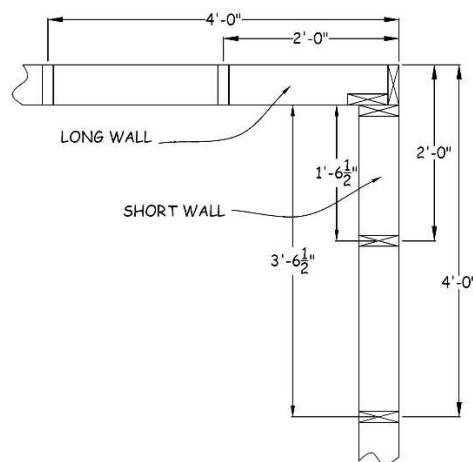

Figure 3-4. Corner Layout.
- For plates on the long walls, the studs are placed on 2' centers from the outside of the zero corner. Therefore, plates on the short walls will be cut 5½" shorter than that to place their ends inside the long wall plates (see Figure 3-4).